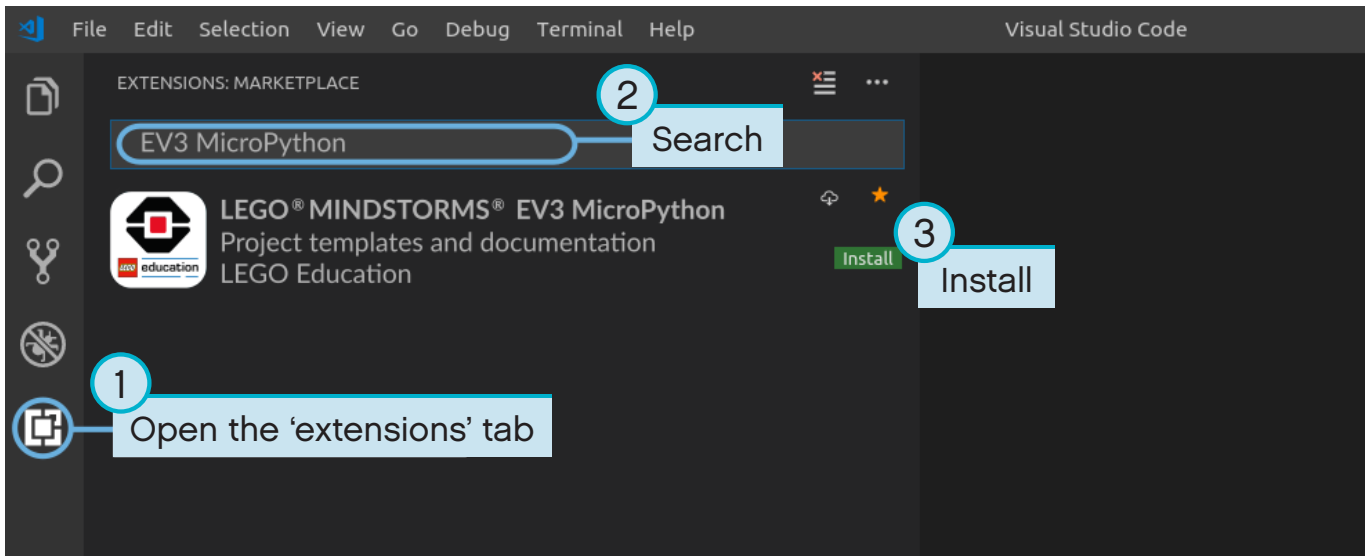

Figure 1.2: Installing the extension from the Visual Studio Code Marketplace.
5. Install the EV3 MicroPython extension as shown in Figure 1.2.